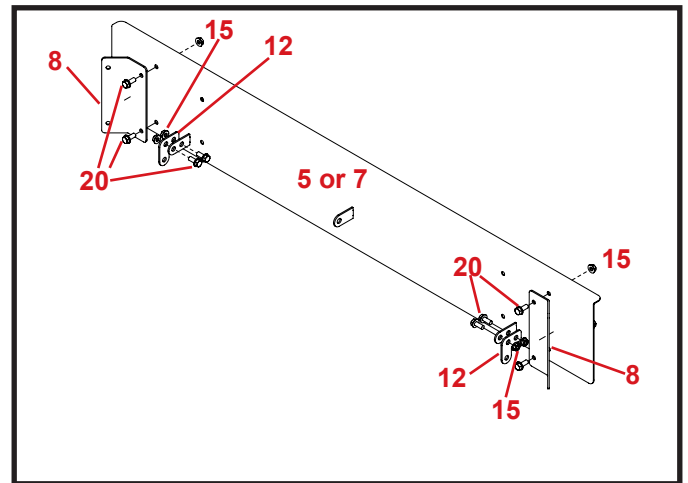

Figure 2
Attach two Panel Bolt Brackets (8) to the Front Panel Assembly (5) using the 5/16" x 3/4" flange bolts (20) and 5/16" flange nuts (15) provided. Attach two Panel Hinge Pieces (12) to the Front Panel Assembly (5) using the 5/16" x 3/4" flange bolts (20) and 5/16" flange nuts (15) provided. See Figure 2.